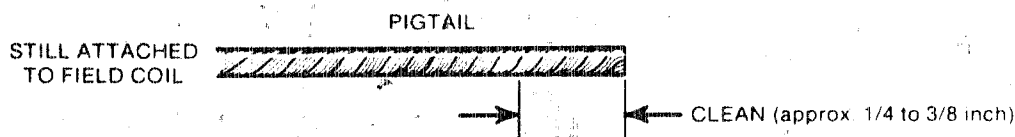

FIGURE 1.
3. Clean brush end of pigtail lead with sand paper or emery cloth to provide a clean soldering area, 1/4 to 3/8 inch in length (6.5 to 9.5 mm). See Figure 1.